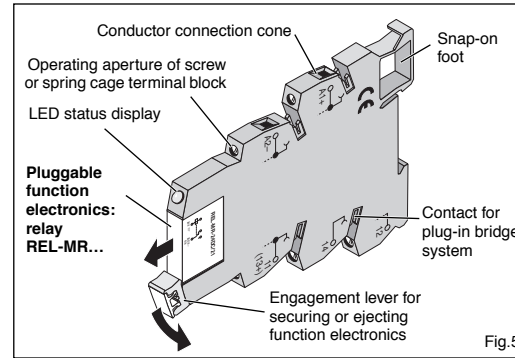

Fig.5
**3.1. Relay with PDT Contact (Fig.5/6)**